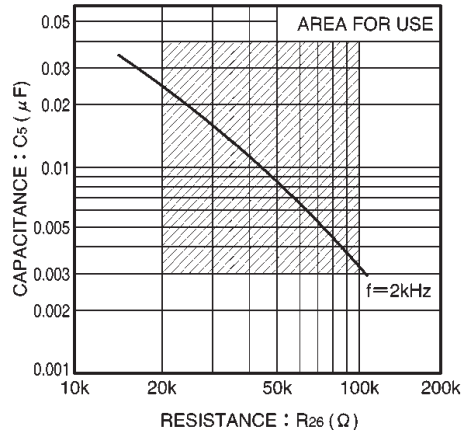

Fig. 7 Value of external components for oscillator (Vcc = 5.0V)
(3) The external resistor R₂₆ connected to the oscillator (pin 28) should be in the range of 20kΩ and 100kΩ. If it is outside this range, oscillation may stop due to the influence of temperature (see Fig. 7).